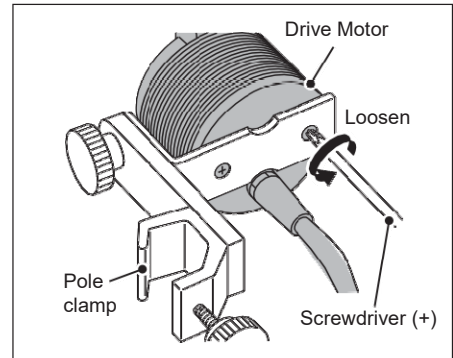

Figure 1-7
1. Remove the pole clamp attached to the Drive Motor with a screwdriver (+). (Figure 1-7)